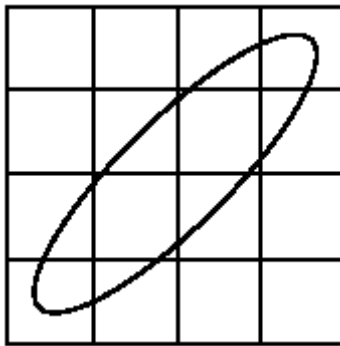

Figure 2. Typical FM Deviation Oscilloscope Display (Zero Beat Method).
- (1) Position oscilloscope controls as listed in (a) through (d) below:
(2) Connect TI **COMP** (rear) to **CH2 INPUT** on oscilloscope, and synthesizer/level generator **OUTPUT** 50Ω to **CH1 INPUT** of oscilloscope.
(3) Enter a frequency of 108.000 MHz into TI and press **TONE SELECT 9960 FM** only (**30 Hz VAR OFF**) pushbutton.
(4) Adjust oscilloscope **CH2 VOLT/DIV VARIABLE** control for a 4-division vertical deflection on crt.
(5) Adjust synthesizer/level generator frequency to 9475 Hz and output amplitude controls for a 4-division horizontal deflection on **CH 1** of oscilloscope crt.
(6) The crt will display a 4-division square pattern with a slowly oscillating circle or ellipse inside the square pattern as shown in figure 2.
(1) Connect digital multimeter to **TI COMP** output (rear panel).
(2) Press **FUNCTION/CONTROL STD** pushbutton and enter a frequency of 335.00 MHz into TI.
(3) Press **TONE SELECT 90 Hz** pushbutton (all other **TONE SELECT** pushbuttons off). Record digital multimeter indication.
(4) Press **TONE SELECT 150 Hz** pushbutton (all other **TONE SELECT** pushbuttons off). Record digital multimeter indication.
(5) Divide the measured value of one tone by the other to determine the voltage ratio. Calculated ratio will be between 0.99975 and 1.00025.
(6) Connect digital multimeter to **TI DEMOD** output (rear panel).
(7) Repeat (3) through (5) above. Calculated ratio will be between 0.99745 and 1.00255.
(8) Connect equipment as shown in figure 2. Set decade resistor to 47 k Ω .
(9) Press **TONE SELECT 90 Hz** pushbutton (all other **TONE SELECT** pushbuttons off) and enter a **DDM** setting of 0.045 into TI. Record digital multimeter indication.